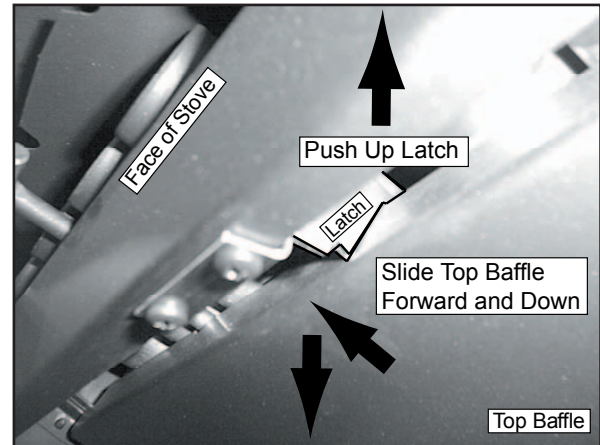

Figure 32.2
- c. Push the latch up with your finger while sliding the top baffle forward and down. **Figure 32.2.**